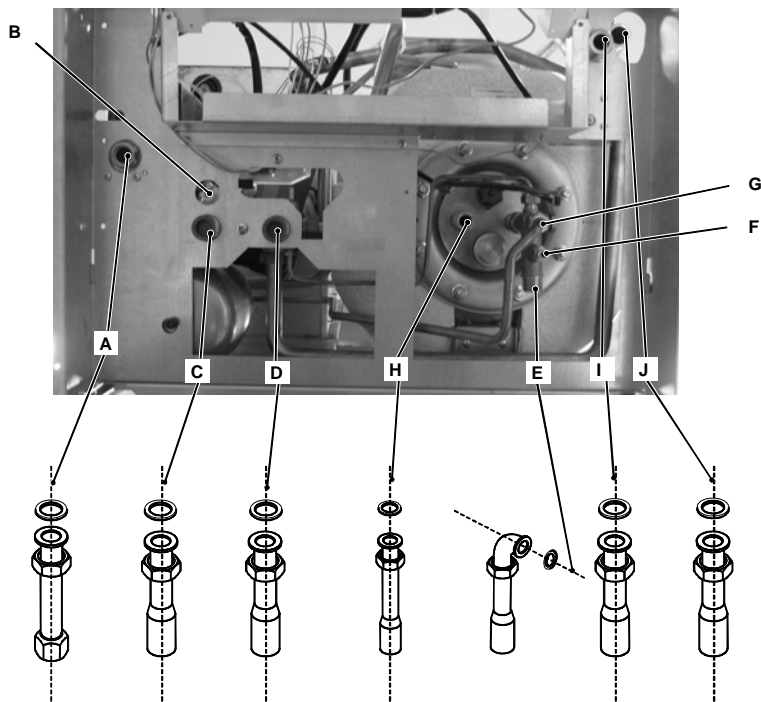

Figure 10.1
The Riva boiler is supplied with a 3/4" stainless steel gas pipe (A in figure 10.1), 4 - 3/4" copper pipe (C,D,J,K in figure 10.1), 2 - 1/2" copper pipe (E,H in figure 10.1), located in a
- Remove the protective caps off boiler connections (Figure 10.1).
- Attach the supplied components to the boiler connections (see Figures 10.1). Be sure to use the proper gaskets for the pipe connections.